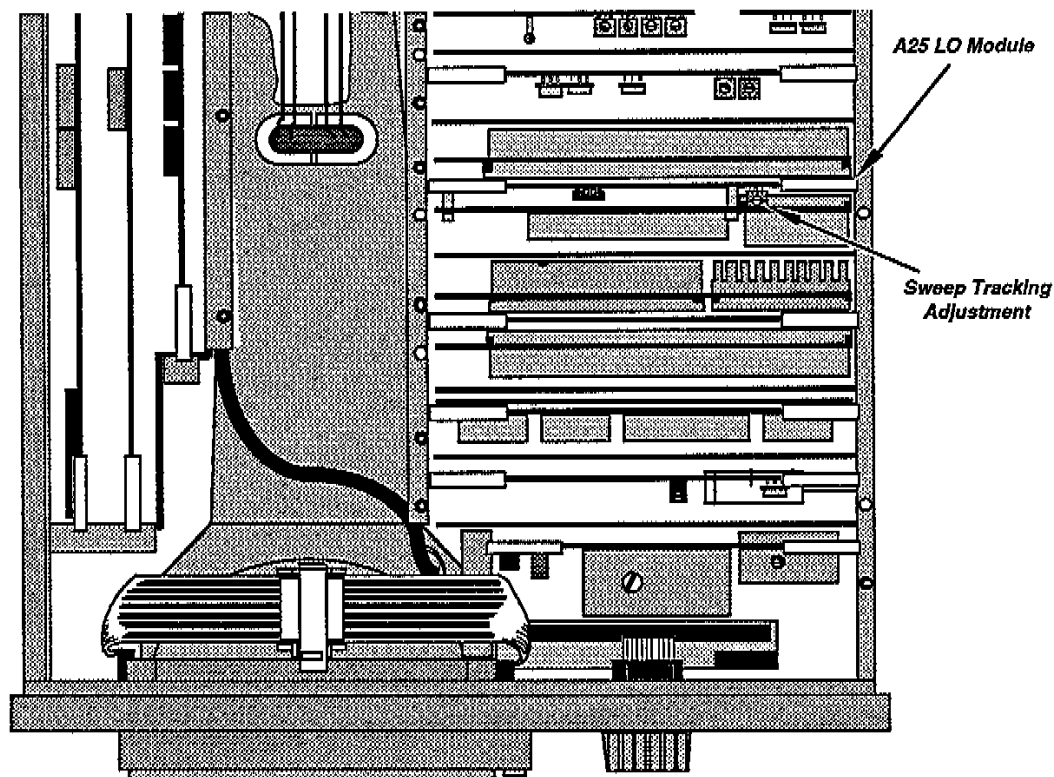

Figure 3-11. Location of Sweep Tracking Balance Test Points and Adjustment.
4. Connect the digital voltmeter to pin 9 on the 2782 rear panel Accessory Interface port (P10) (as shown in Figure 3-11).
8. Adjust the SWEEP TRACKING adjustment located on the LO module (shown in Figure 3-11) so that the voltage measured at pin 9 is the same as was measured in step 6.